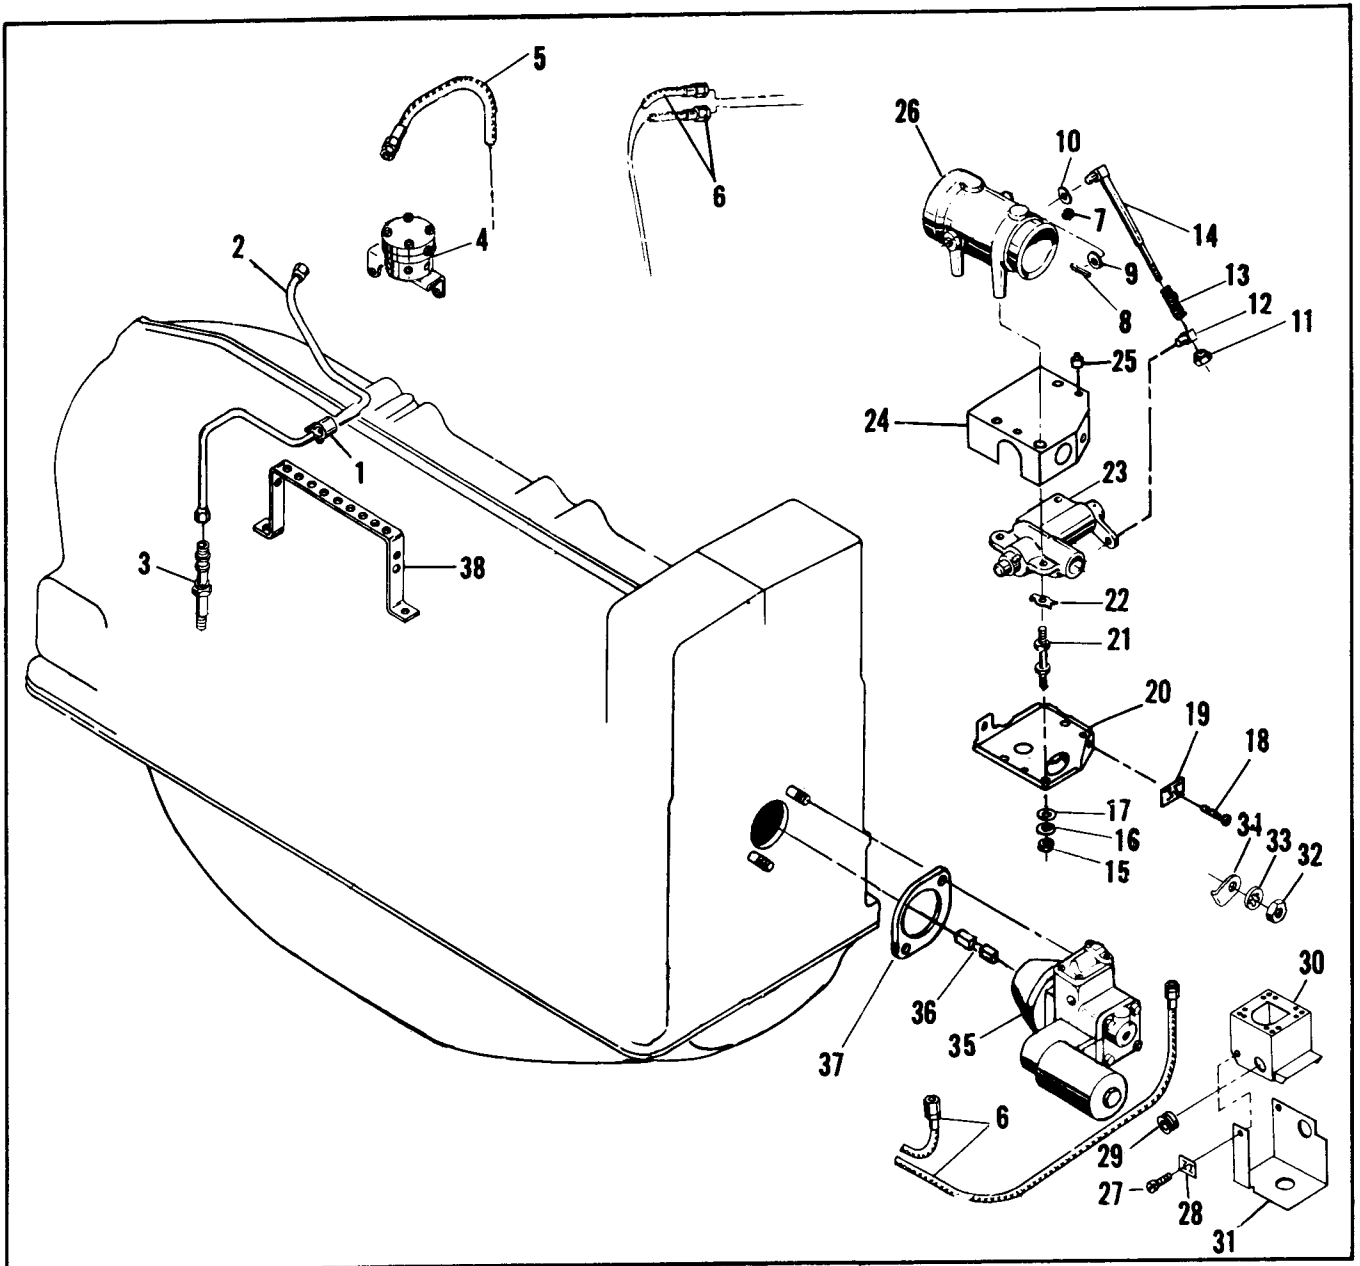

FIGURE 4-6. FUEL INJECTION SYSTEM, TS10-520-B & E.
4-14. FUEL INJECTION SYSTEM, TSIO-520-B & E (See Figure 4-6).
- a. Disconnect six fuel discharge tubes (2) from fuel manifold valve (4) and nozzles (3). Compress spring legs of each clamp (1) and remove tubes and clamps. Disconnect hose (5) at fuel manifold valve. Remove nozzles (3) and store in a clean container.
- b. Disconnect hose assemblies (5,6) from control unit (23) and hose assemblies (6) from fuel pump (35).
- c. To separate control unit (23) from air throttle body (26) remove two sets of cotter pins (8), plain washers (9) and wave washers (10). Remove link rod assembly (11 thru 14). Remove attaching parts (15,16,17 and 18,19) and remove shroud (20). Remove attaching parts (21,22) and separate control unit (23) and shroud (24) from air throttle body (26).
- d. Remove two sets of attaching parts (27,28) and separate shrouds (30,31) from fuel pump (35). Disconnect tube (3, Figure 4-6) from fuel pump. Remove attaching parts (32,33,34) and lift fuel pump from crankcase studs. Remove gasket (37) and coupling (36).